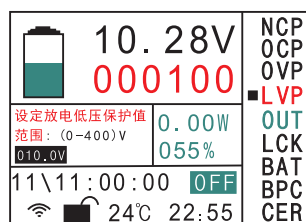

Figure 4-4
4). "**LVP**" Discharge undervoltage protection value, if the value is greater than 0 will start the protection, if equal to 0 will not start the protection function. When setting the parameters, press the $\uparrow\downarrow$ key to move the cursor to **LVP** and then click the **OK** key to enter into the parameter setting interface Figure 4-4. The setting of parameters is the same as NCP.